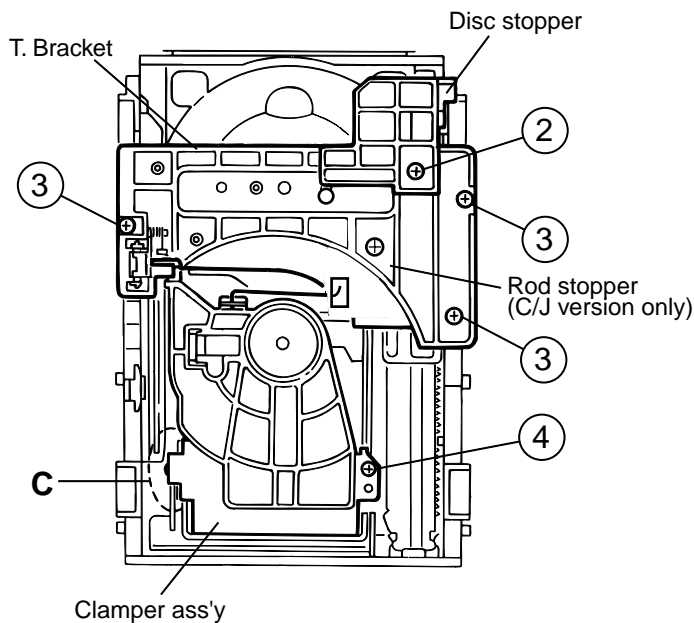

Fig.3
5. Remove the three screws 3 retaining the T. bracket. (See Fig.3)
7. Remove the screw 4 retaining the clamber assembly. (See Fig.3)
8. From the bracket section "C", remove the clamber ass'y. (See Fig.3)